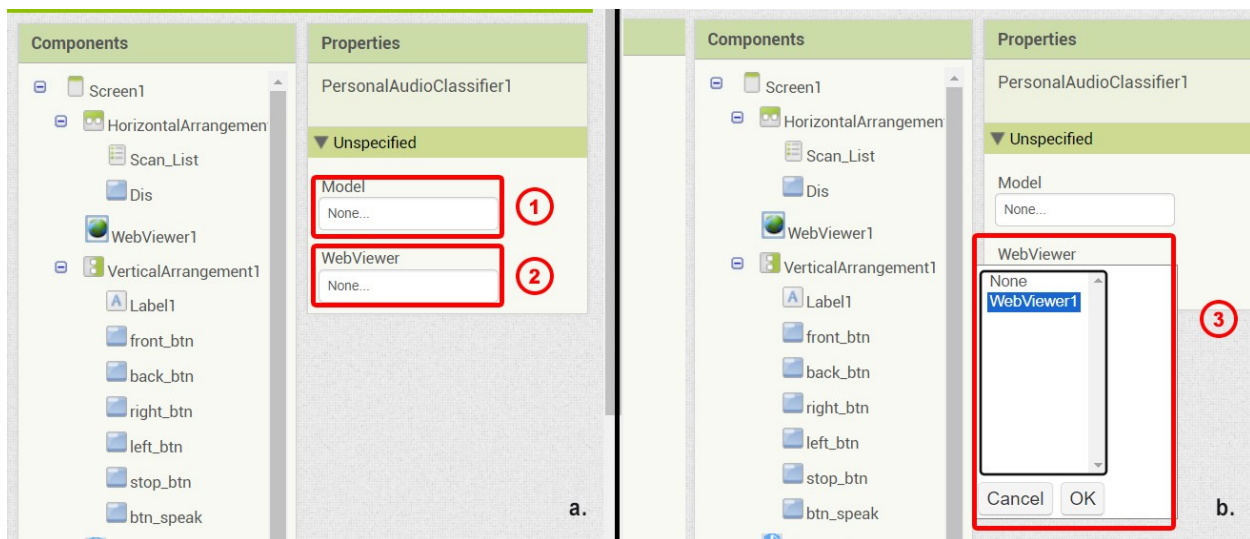

Figure 33: a. Modifying the properties of PersonalAudioClassifier; b. Upload the file of the trained model and select the WebViewer1 component
Then select the PersonalAudioClassifier component from the Components menu to modify its properties (Figure 33). Specifically, click on the “None...” field under both the Model (1) and the WebViewer (2) properties to correspondingly upload the .mdl trained model file (which you previously created on the PAC training environment) and to select the WebViewer1 component from the floating list (3).